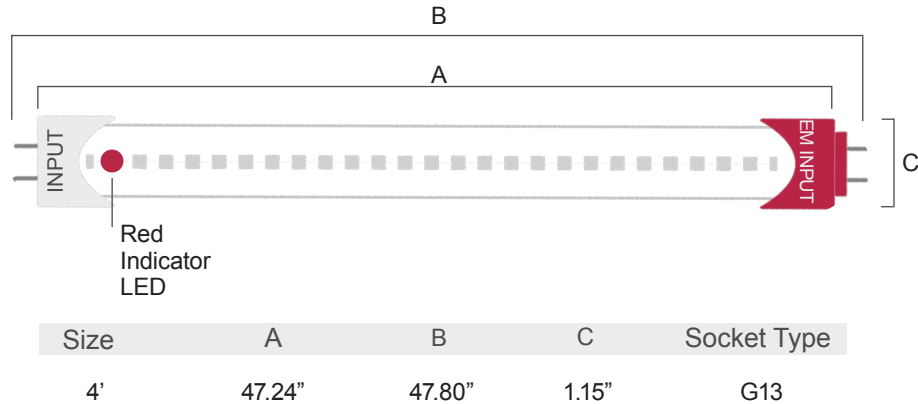

Figure 1: Lamp Dimensions
- Test switch will interrupt power to the EM INPUT as indicated in figure 1. The RedCap® will enter emergency mode regardless of the status of power on the INPUT end. Note that other lamps may not shut off during this test.